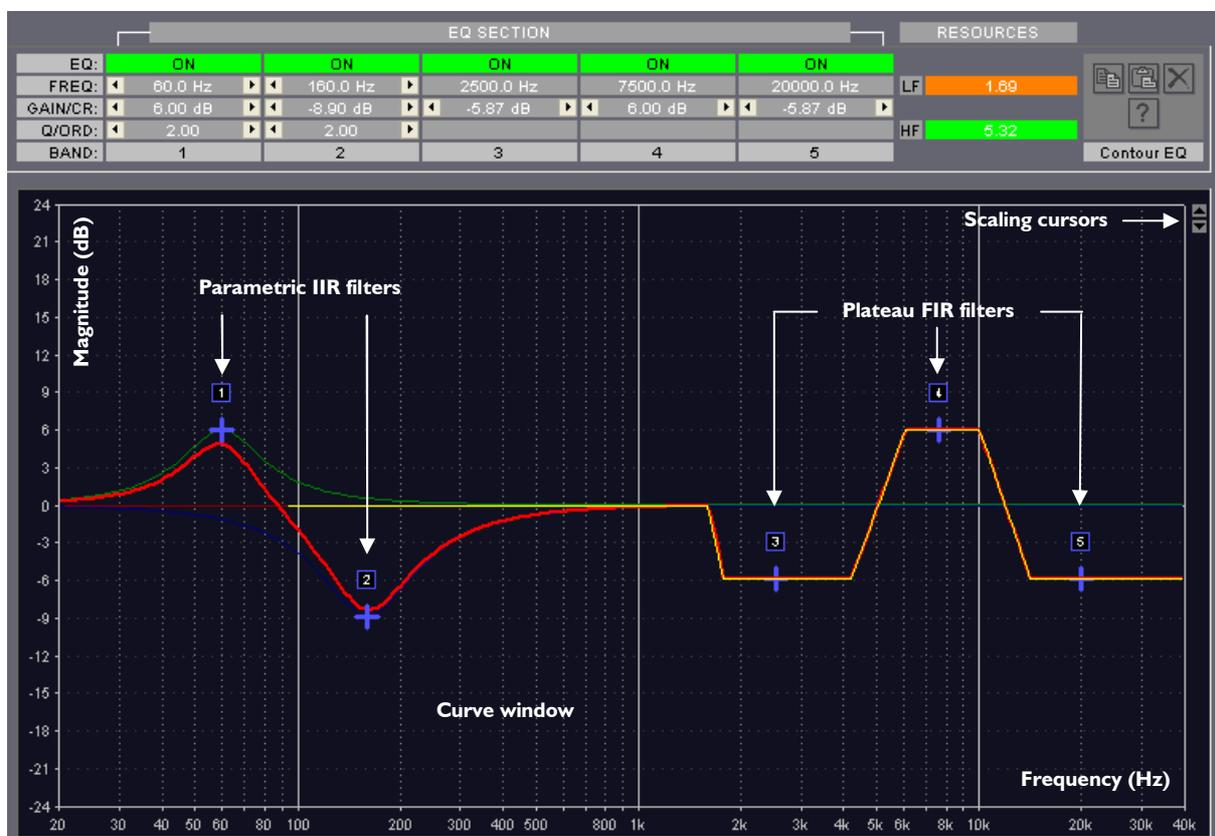

Figure 28: EQ section
The EQ SECTION is a mini EQ station composed of 2 parametric IIR filters (1-2) for room acoustic equalization and 3 linear phase FIR plateau filters (3-5) for air absorption compensation (see Figure 28).
1. In menu **1** or **2**, click on the **ON/OFF** key and select **ON**: the filter is turned on, the key color turns **green**, and a blue cross labeled as **1** or **2** is displayed into the **curve window** (see Figure 28).
2. Set the **FREQUENCY**, **GAIN**, and **QUALITY FACTOR (Q)** parameters by clicking on the side cursors, or keyboarding the value, or shifting cross **1** or **2** on the curve (right-click for **Q** setting).
1. In menu **3**, **4**, or **5**, click on the **ON/OFF** key and select **ON**: the filter is turned on, the key color turns **green**, and a blue cross labeled as **3**, **4**, or **5** is displayed into the **curve window** (see Figure 28).